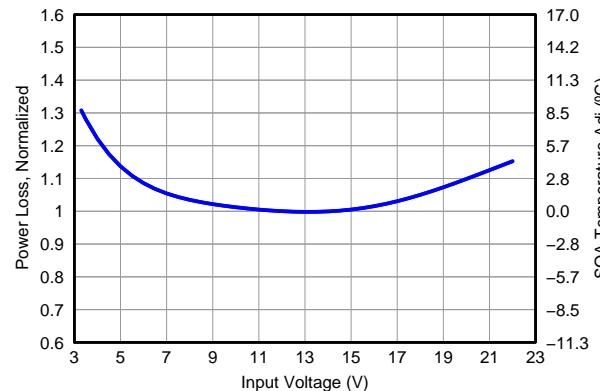

Figure 13. Normalized Power Loss vs Input Voltage
- Normalized Power Loss for input voltage ≈ 1.05 (Figure 13)
- SOA adjustment for input voltage $\approx 1.4^{\circ}\text{C}$ (Figure 13)